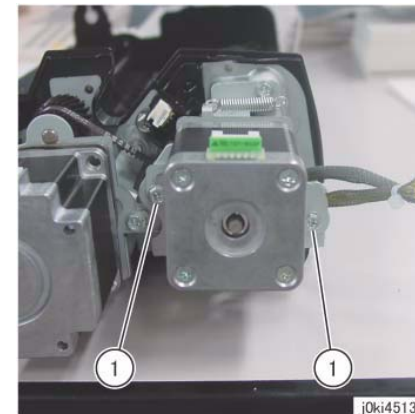

Figure 1 Loosen the Belt tension
11. Loosen the Belt tension of the DADF Reg Motor. (Figure 1)